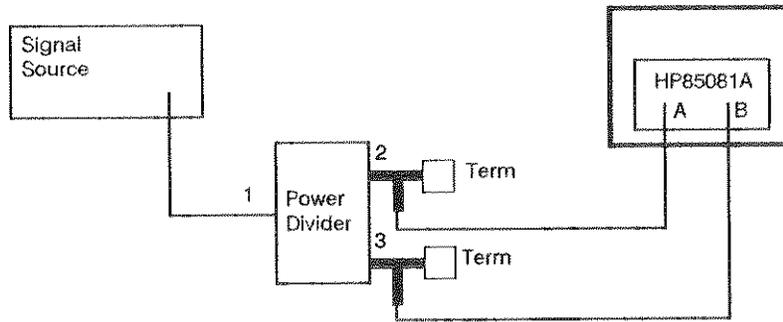

Figure 5-6. Delay Line Adjust Setup
5. Reconfigure the equipment as shown in Figure 5-6.
9. Disconnect the power meter and reconfigure the equipment as shown in Figure 5-6.
11. Configure the equipment as shown in Figure 5-6 (with the HP 85081A installed for access to the delay adjustment).